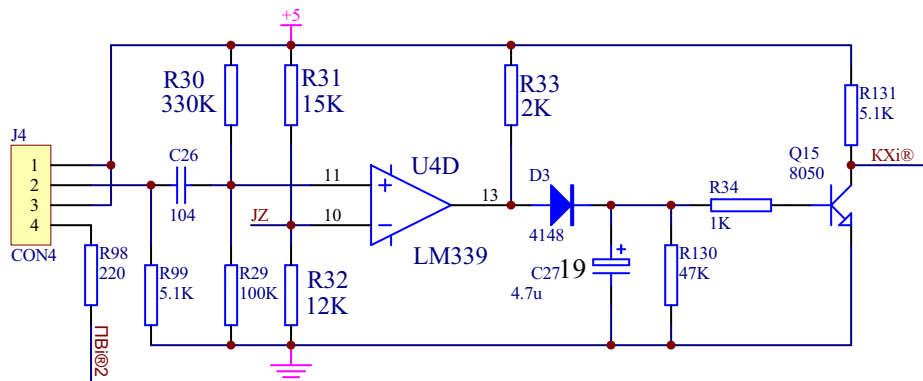

Fig.23 Stacker Sensor Circuit Diagram
(2) PRO85UM, PRO85UM/S Circuit (Fig.23)